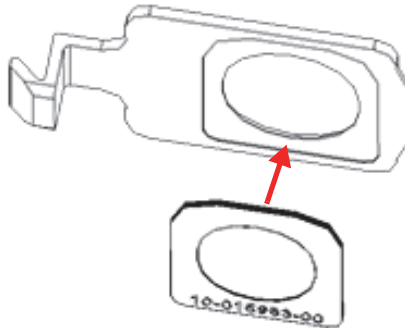

Figure 4-8 New window aligned with faceplate
2. Align and carefully press the window onto the faceplate (Figure 4-8 on page 65).